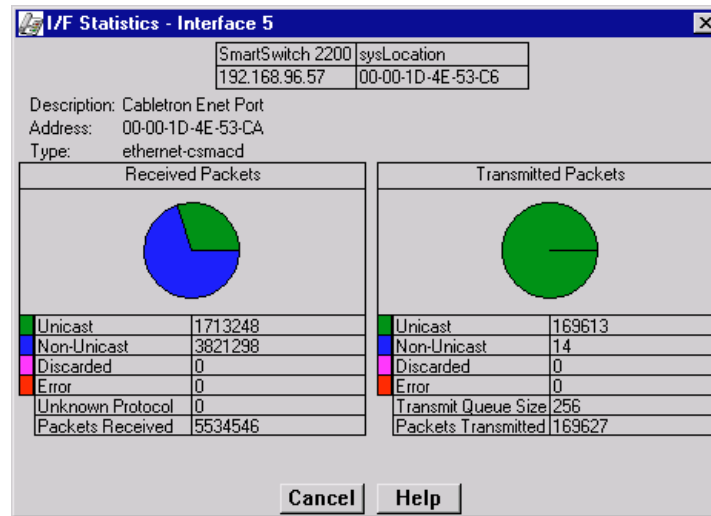

Figure 4-3. The Interface Statistics Window
2. **For RMON statistics** (where available), click to select **Statistics**. The RMON Statistics (Figure 4-1) or MIB-II Interface Statistics (Figure 4-3) window, as appropriate, opens.
For MIB-II interface statistics, click to select **I/F Statistics**. The MIB-II Interface Statistics window (Figure 4-3) opens.
The Interface (IF) Statistics window (Figure 4-3) provides MIB-II interface statistical information — including counts for both transmit and receive packets, and error and buffering information — for any port interface on the selected SmartSwitch 2000.